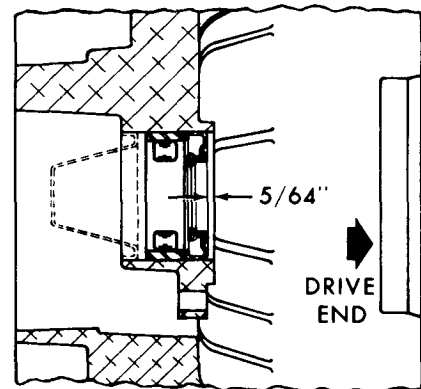

Figure 20—Seal location
5. Add lubricant to the seal lip and fill the cavity with lubricant between the rubber lip and steel case of the seal. Install the seal with the lip towards the bearing to the dimension shown in Figure 20.